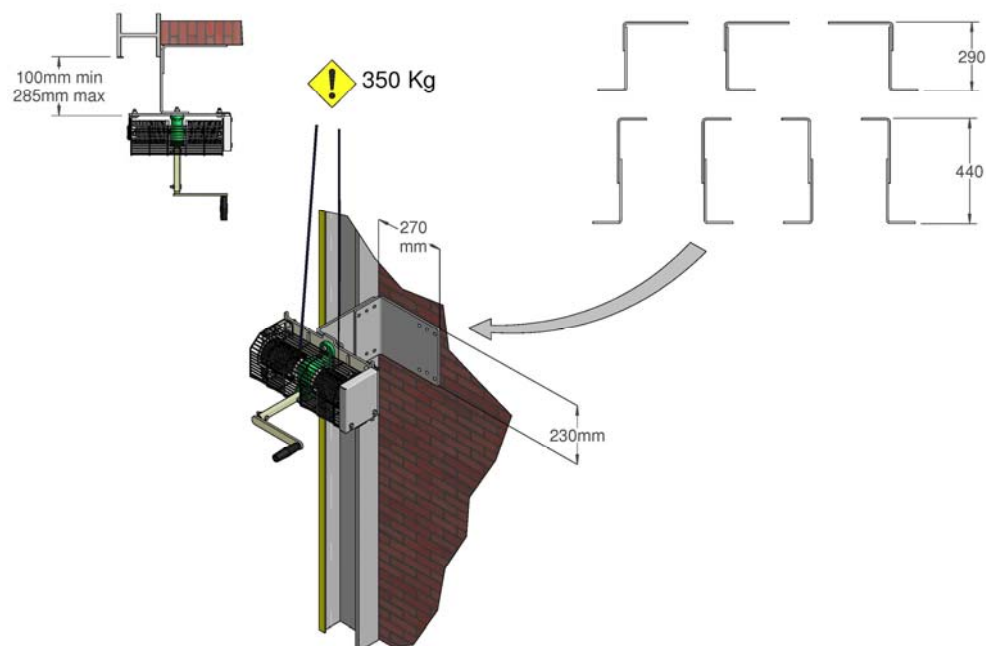

Figure 7
7. Figure 7 shows the various fitting possibilities for the manual drive using the two mounting brackets supplied with the door. Ensure the fixing surface can withstand the maximum door weight of 350Kg.